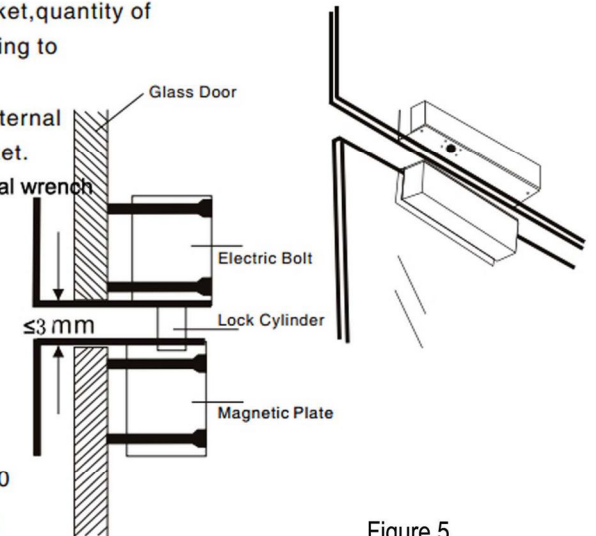

Figure 5
- 2.2. The lock is mainly composed of two parts : (1)Aluminum alloy magnet seat ,(2) lock. the gap bewteen the aluminum alloy magnet seat and electric bolt is $\leq 3\text{MM}$ (Figure 5).